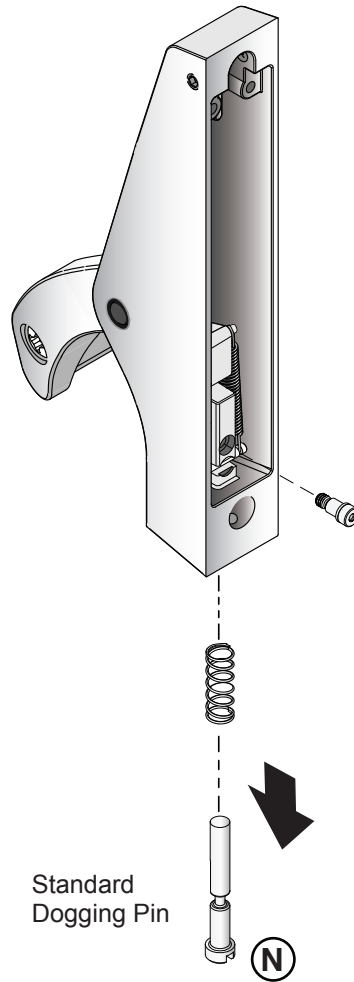

FIG. 24
2. Remove Standard Dogging Pin as shown (Fig. 24).